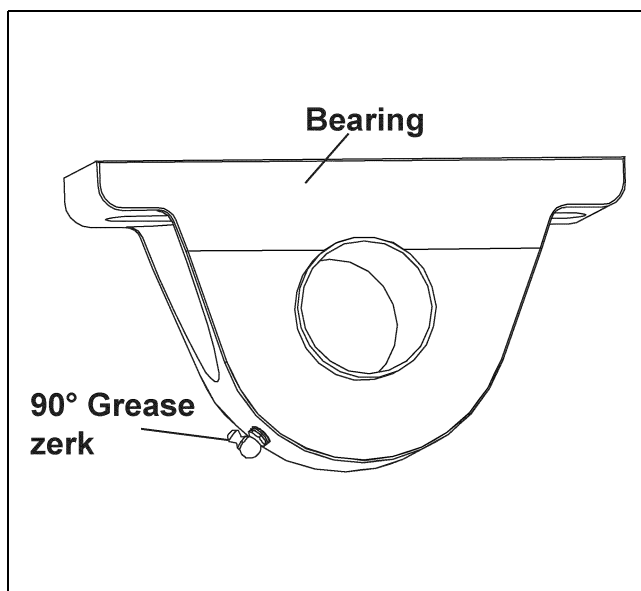

Figure 5I
- B. Replace standard grease zerks with 90° grease zerks on both bearings. Make sure the 90° grease zerk is turned as shown in Figure 5I, so the zerks are accessible from the center of the tractor drive stand.
- D. Attach Bottom Chain Guard Weldment to Tractor Drive Stand using 3/8" x 1-1/4" HHCS bolts, 3/8" split lock washers, and 3/8" hex nuts. *(See Figure 5I)*